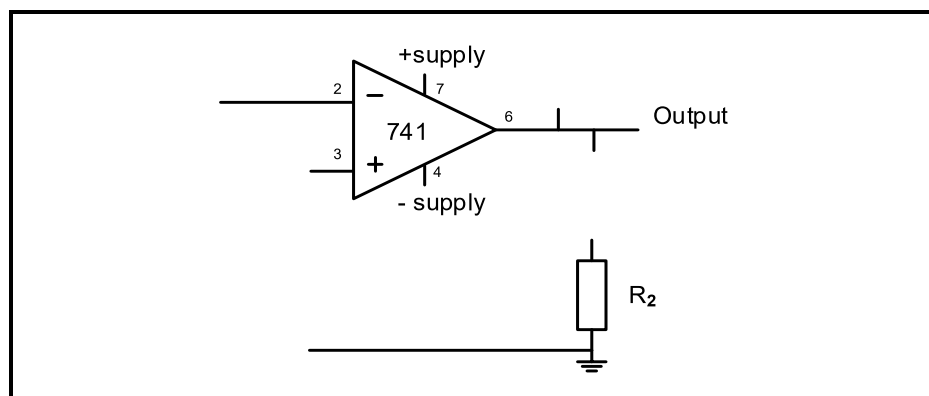

FIGURE 3.5.1: INCOMPLETE CIRCUIT DIAGRAM OF AN ASTABLE MULTIVIBRATOR
- 3.5.1 Complete the circuit diagram in FIGURE 3.5.1 on the ANSWER SHEET for QUESTION 3.5.1 to make an astable multivibrator.